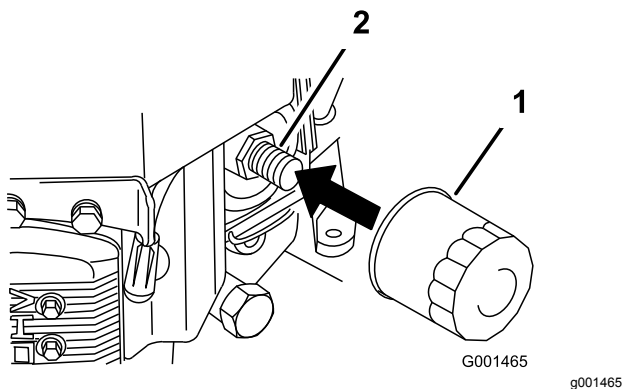

Figure 27
2. Remove the old filter (Figure 27).
3. Apply a thin coat of new oil to the rubber gasket on the replacement filter (Figure 27).
4. Install the replacement oil filter to the filter adapter, turn the oil filter clockwise until the rubber gasket contacts the filter adapter, and tighten the filter an additional 3/4 turn (Figure 27).